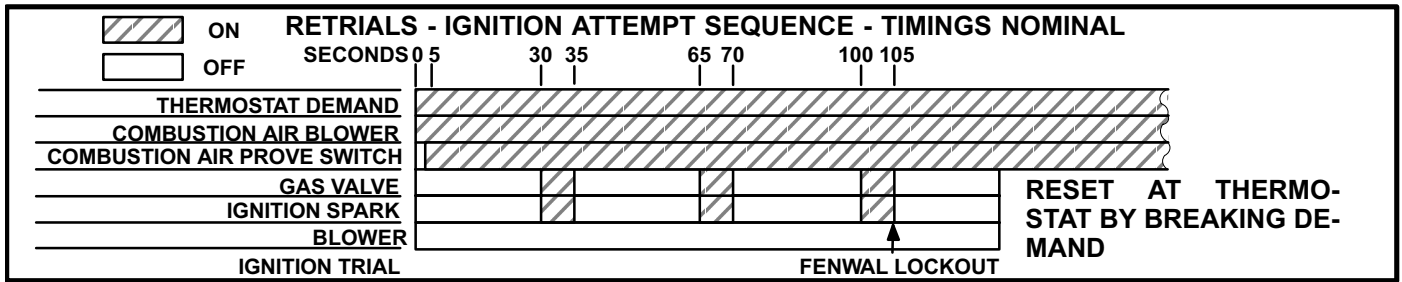

FIGURE 11
- d- Proper gas/air mixture is required for ignition on the first attempt. If there is any deviation, within tolerance of the unit, a second or third trial may be necessary for ignition. The control will lock out the heating system if ignition is not obtained within three trials and the (indoor) blower will not start. Reset after lockout requires only breaking and re-making thermostat demand. See figure 11 for the ignition attempt sequence with retries (minimal timings given for simplicity). Loss of flame during a heating cycle is indicated by an absence of flame signal (0 microamps). If this happens, the control will immediately restart the ignition sequence and then lock out if ignition is not gained after the third trial.